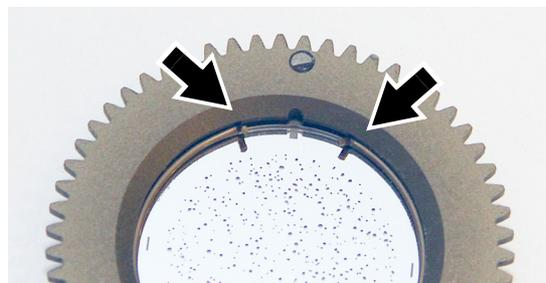

Figure 20: Gobo retaining spring
1. See Figure 20. Place the goboholder on a clean surface with the recess for the gobo and gobo spring facing upwards. Note the position of the bends (arrowed) in the ends of the gobo retaining spring. Using a plastic lever to avoid scratching the gobo, lever one end of the retaining spring out of the groove in the goboholder and lift the retaining spring out of the goboholder.
4. Check that the gobo is seated flat in the holder. See Figure 20. Insert the retaining spring into the goboholder and press it into its groove in the goboholder. Check that the spring is pressed as flat as possible against the gobo and that the gobo is held securely in the goboholder.